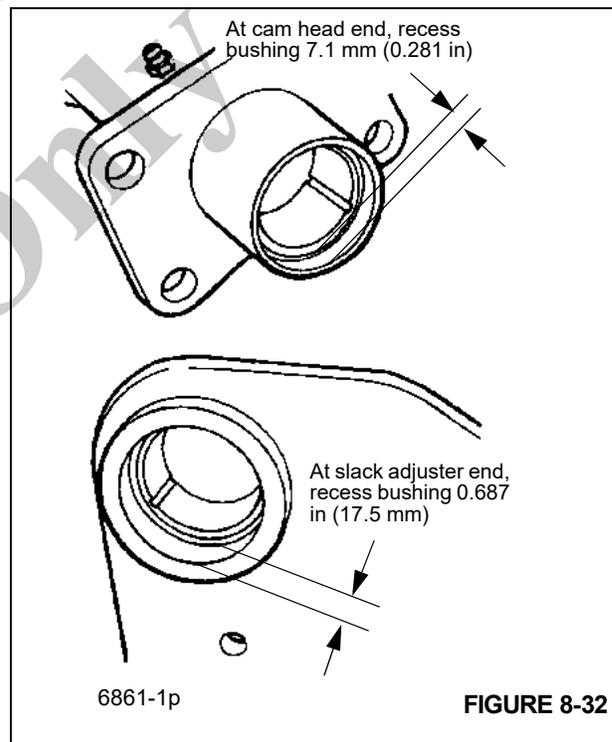

FIGURE 8-32
4. Install the new bushings in the air chamber bracket with a piloted driver. Both bushings are nonmetallic and are labeled on one end. Install them with the labeled ends facing each other. The cam head end is recessed 7.1 mm (0.281 in) and the slack adjuster end is recessed 17.5 mm (0.688 in) from the ends of the tube (Figure 8-32).